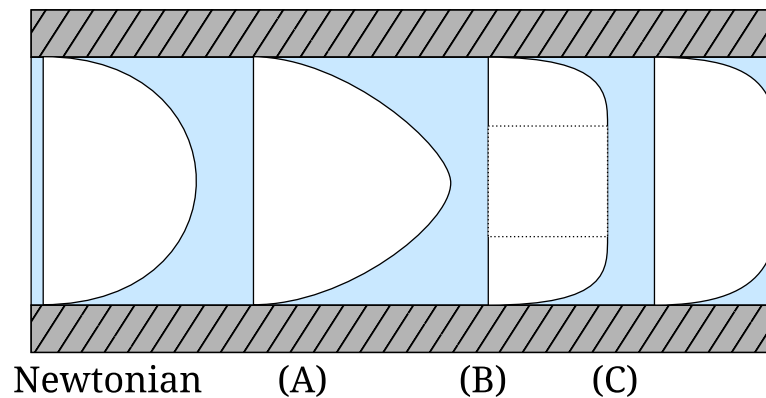

Figure 29: Non-newtonian flow profiles compared against the newtonian flow profile.
- 1) In Fig. 29, which profile corresponds to a shear thinning fluid? **[2 marks]**
- 2) In Fig. 29, which profile corresponds to a viscoplastic fluid? **[2 marks]**
- 3) Which profile in Fig. 29 corresponds to a shear thickening fluid? **[2 marks]**
- 4) Which profile in Fig. 29 corresponds to a Bingham-plastic fluid? **[2 marks]**
- 5) Which fluid types illustrated using the flow profiles in Fig. 29 cannot be fitted using a power-law model? **[2 marks]**